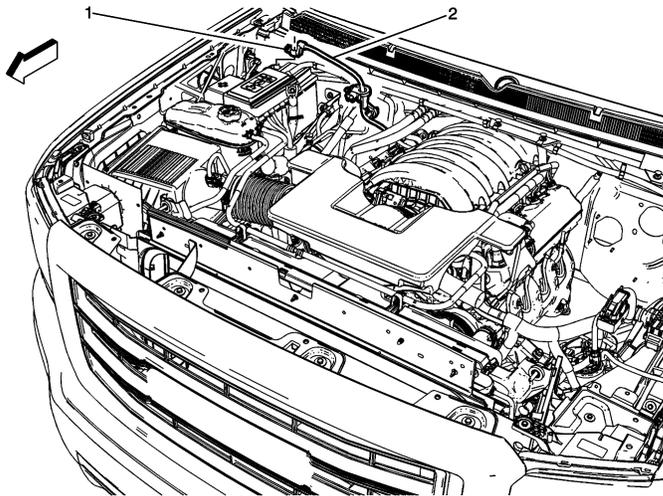

Fig. 1 Battery ground cable disconnect
- clamp fastener (1) and set battery ground cable (2) aside, **Fig. 1**.
6. Connect battery ground cable clamp fastener (1) onto battery and **torque** fastener to 44 inch lbs., **Fig. 1**.